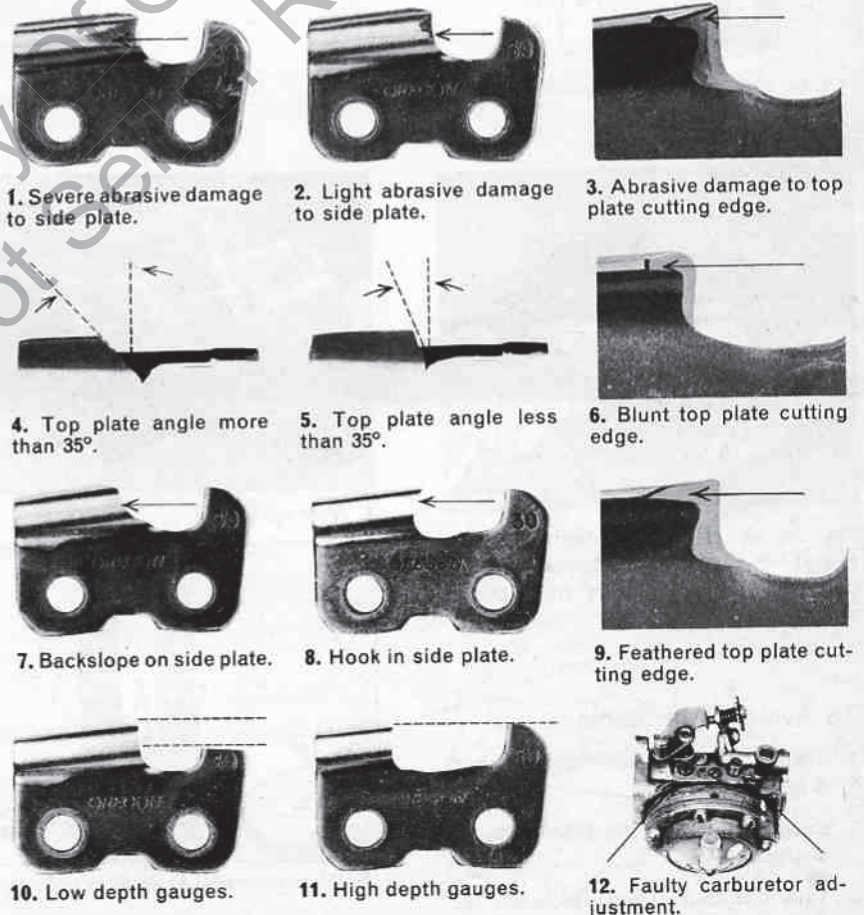

Fig. 20—Cutter problems.
3. Compare each cutter to those pictured in Fig. 20.